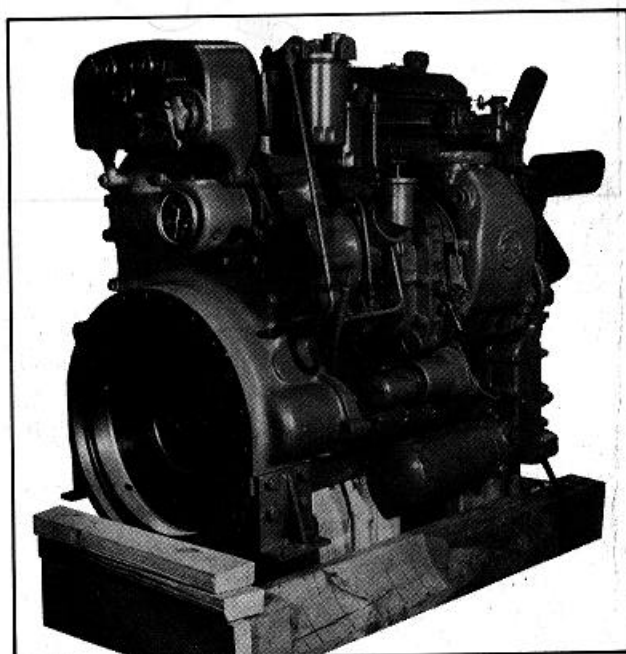

Fig. 3 - Tachometer Mounting.
1. Remove the two capscrews holding instrument panel to flywheel housing (Fig. 3) and tilt panel enough to allow clearance for tachometer removal.